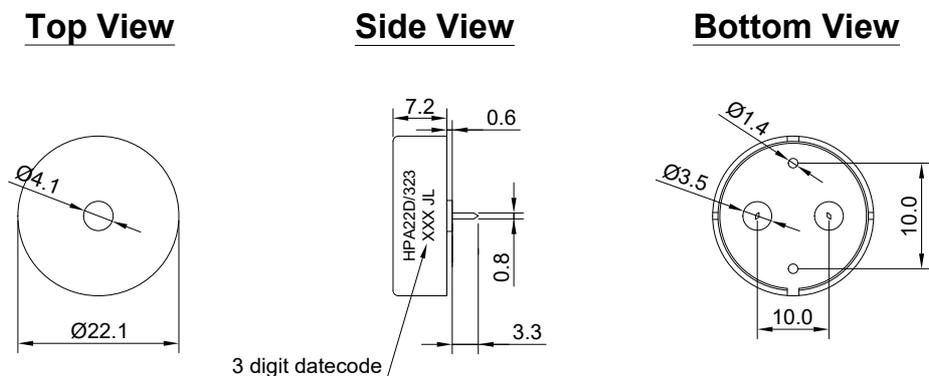

Figure 3. HPA22D/323 Mechanical Layout
4.3.1. Layout and Dimension : See Section 6, Figure 3